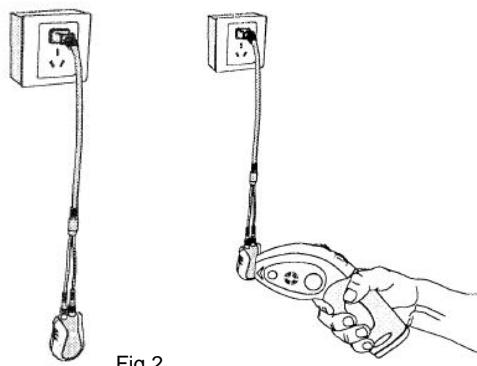

Fig.2
4. The red LED on the emitter should turn on (fig. 2)